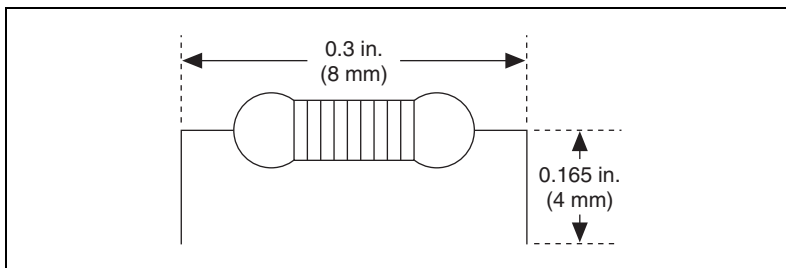

Figure 4-11. Preparing Lead Wires of Replacement Resistors
2. Cut and bend the lead wires of the resistors you want to install. Refer to Figure 4-11 for an example.